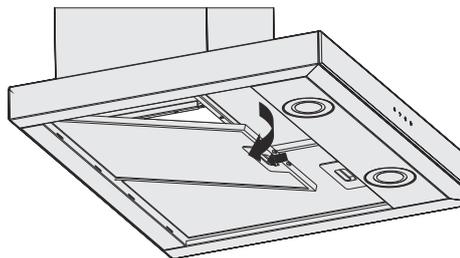

Fig. 11
2. ➤ Unlock and remove the metal oil filter (Fig. 11).